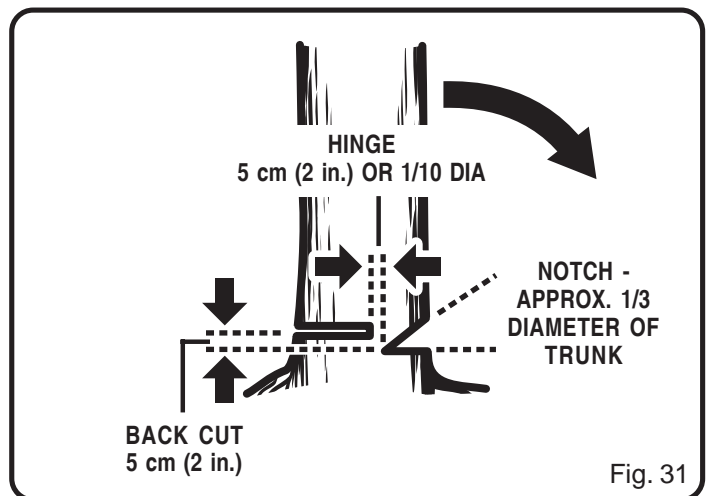

Fig. 31
3. Cut a notch about one-third the diameter of the trunk in the side of the tree. Make the notch cuts so they intersect at right angles to the line of fall. This notch should be cleaned out to leave a straight line. To keep the weight of the wood off the saw, always make the lower cut of the notch before the upper cut. *See Figure 31.*
4. Make the back-cut level and horizontal, and at a minimum of 5 cm (2 in.) above the horizontal cut of the notch. *See Figure 31.*